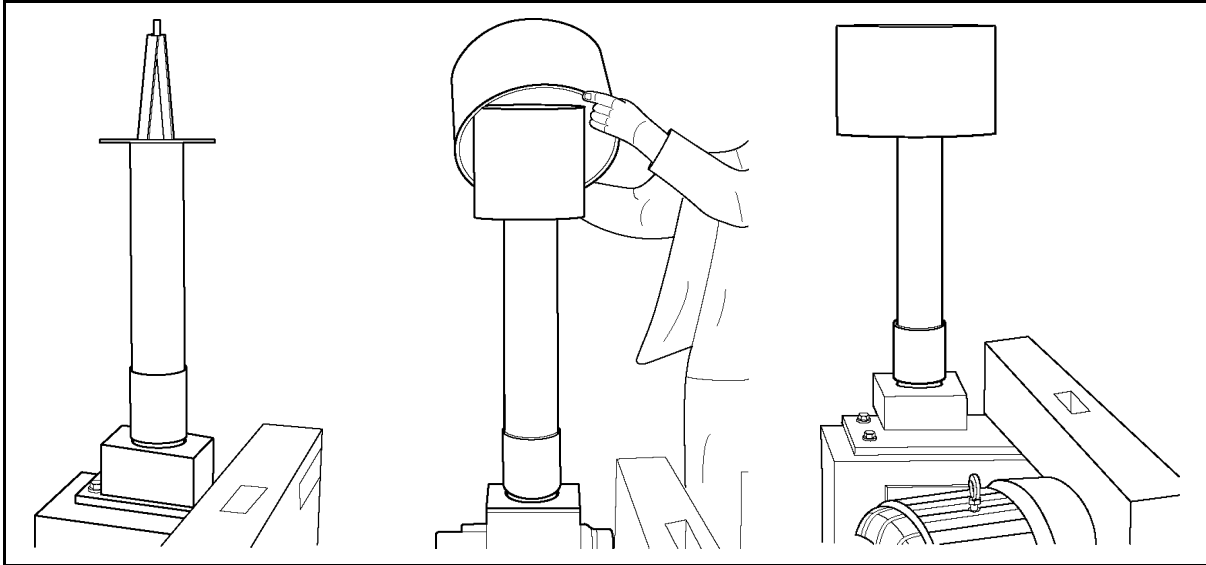

Figure 7A
2. Place the air filter element with pre-filter on the base and cover with the filter canister using the 3/8" wing nut and washer. The wing nut does not need to be more than finger tight. *(See Figure 7A).*